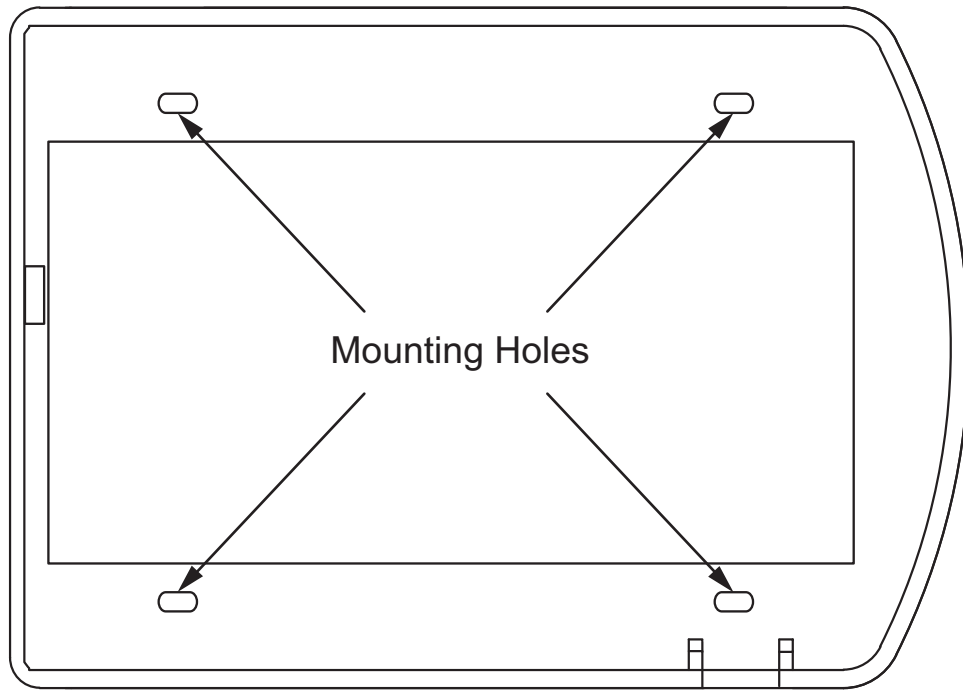

Figure 23 Patient Unit mounting plate
1. Attach the mounting plate to the 3 gang PVC box using four screws (see Figure 23).